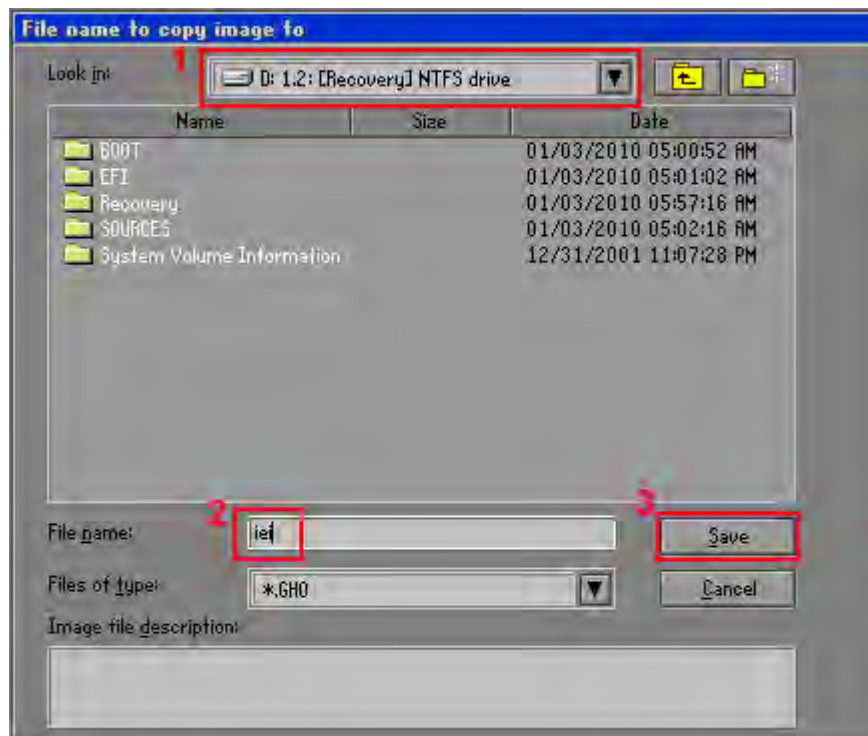

Figure B-16: File Name to Copy Image to
Step 7: Select **1.2: [Recovery] NTFS drive** and enter a file name called **iei** (**Figure B-16**). Click **Save**. The factory default image will then be saved in the selected recovery drive and named **IEI.GHO**.